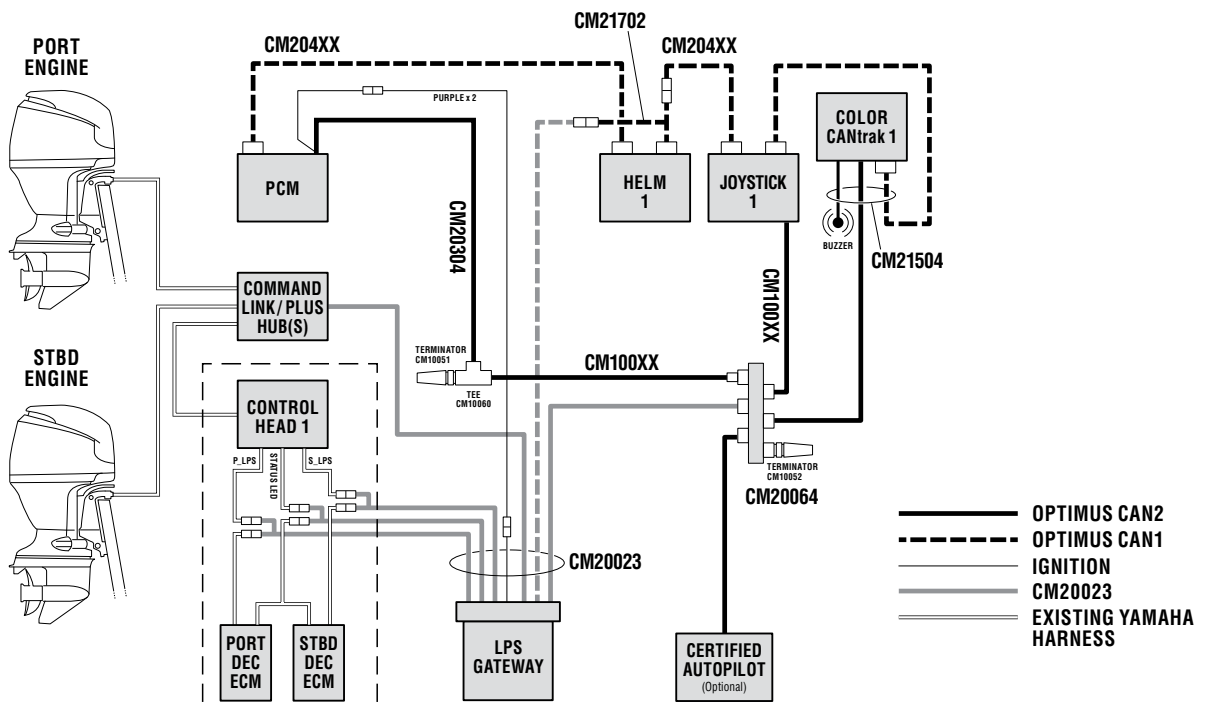
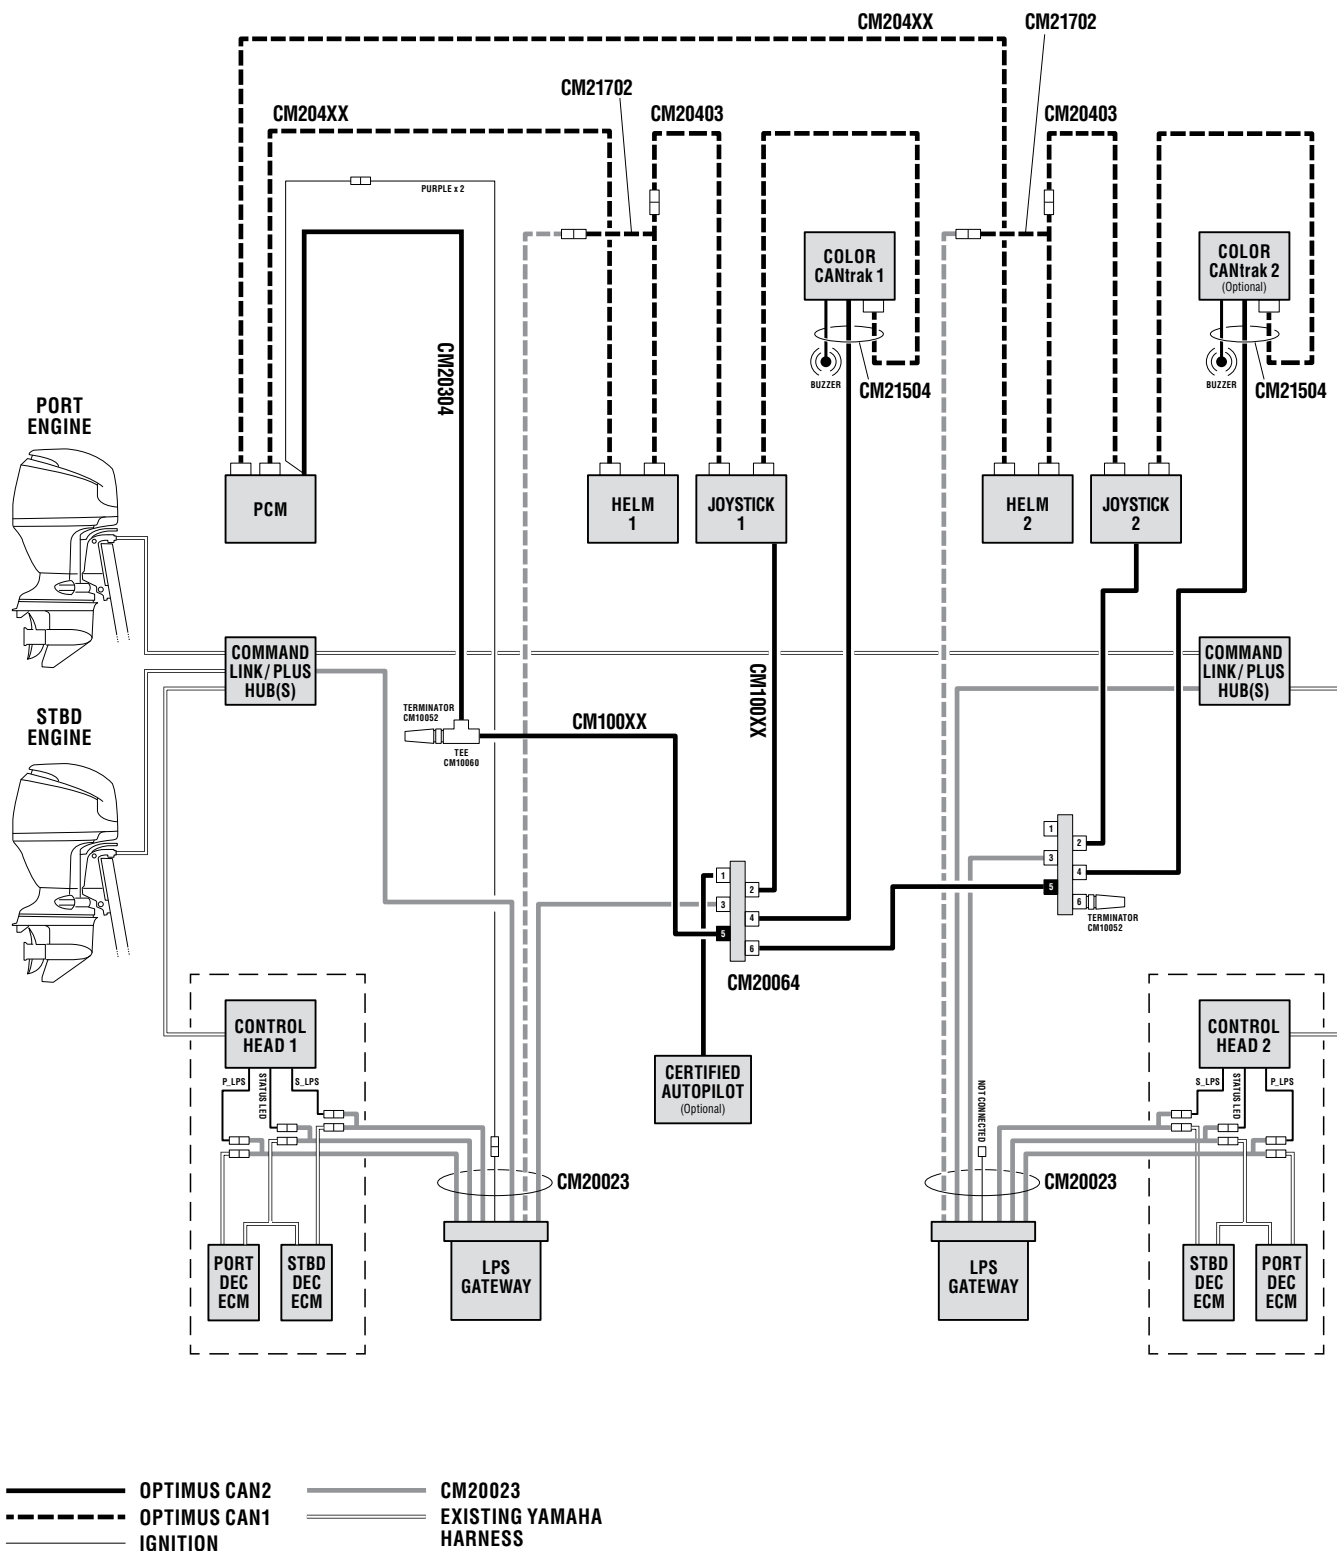

Figure 7-8. Yamaha EST – CAN2 interconnection, single station, twin engine.
Figure 7-9. Yamaha EST – CAN2 interconnection, dual station, twin engine (with preferred CAN1 cabling).
**Twins and Triples:** Figure 7-8 and figure 7-9 show the interconnections for single and dual station implementations. Although the figures show twin engine configurations, the Optimus and gateway connections are identical for a triple engine boat. You may need to add additional Command Link/Plus hubs if there is no port available to connect the gateway harness. Refer to the Yamaha documentation for part numbers.